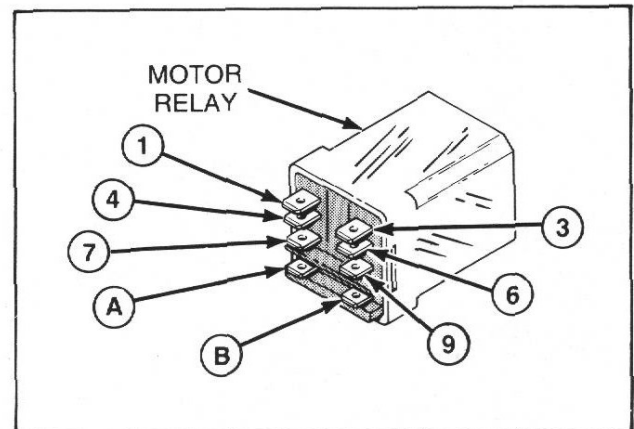

Figure 55
**52. MOTOR RELAY** (Refer to Figure 55)